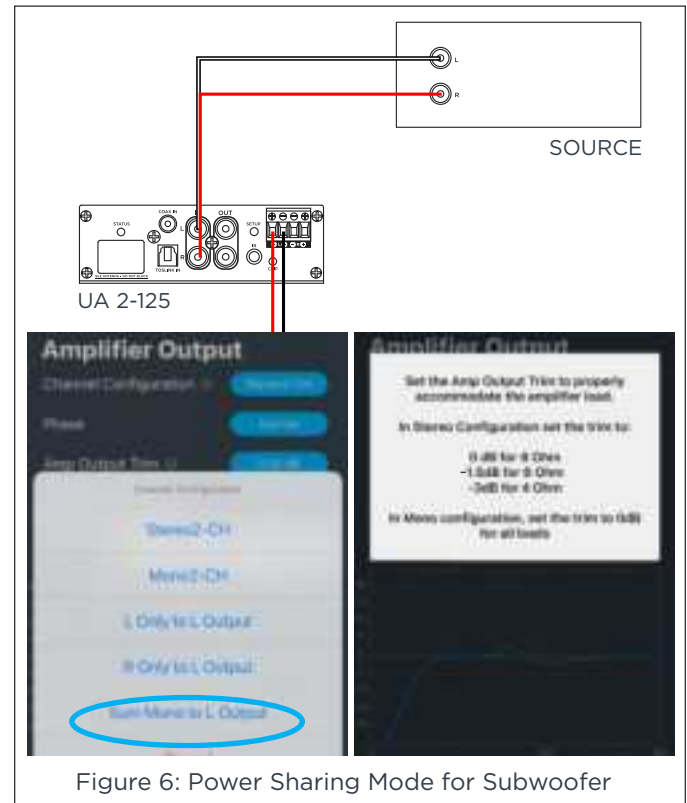

Figure 6: Power Sharing Mode for Subwoofer
**POWER SHARING MODE:** When connecting a source for a subwoofer to a UA 2-125/UA 2-125 ARC amplifier in Power Sharing Mode, connect the inputs for both Left and Right channels and set the Amp Output Channel Configuration in the SonARC App to Sum Mono to L Output configuration (see Figure 6). Remember to set the sub's DSP filter (see Page 9).